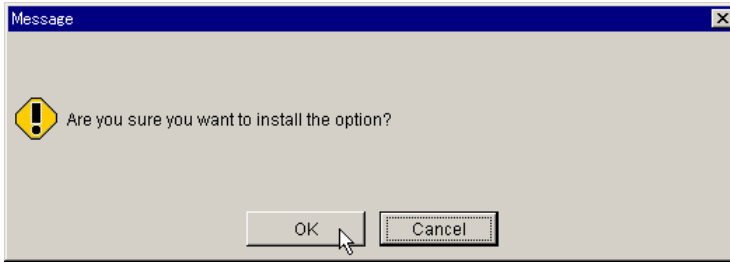

Figure 4.4 Install Options Confirmation Message (2)
7. If you used a key file, the Install Options Confirmation Message (2) displays (see Figure 4.4). Click **OK** to continue the installation, or click **Cancel** to cancel.